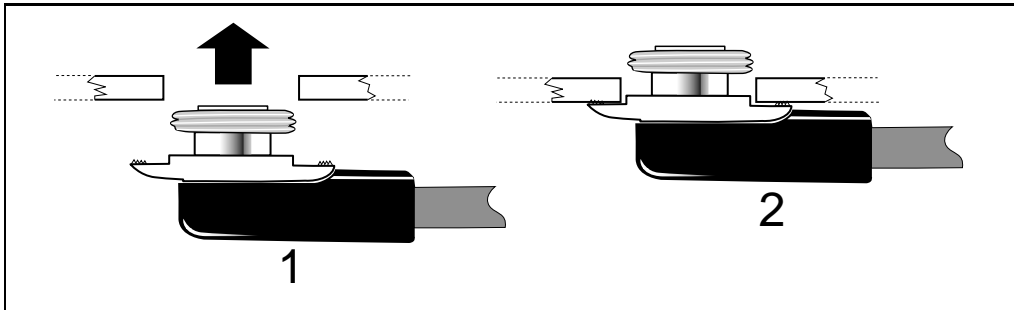

Figure 2.15 Mounting the Antenna Cable Assembly
3. Position the cable mounting assembly below the 19 mm (0.75 in.) hole from the interior of the vehicle (see Figure 2.15).